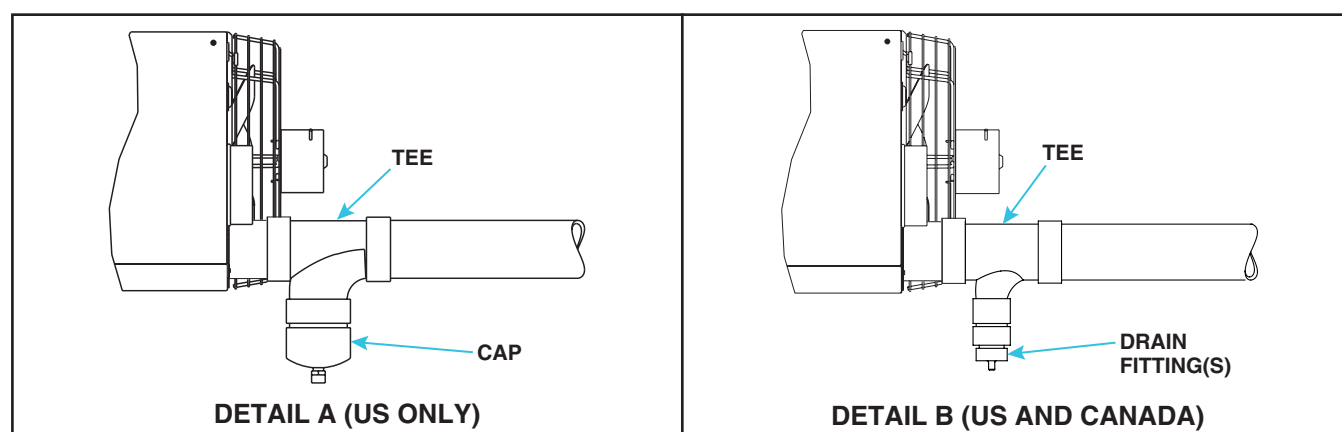

Figure 23. Installing Condensate Drain in Vertical or Horizontal Vent (Unit Sizes 130–310)
2. For horizontal or vertical vent (see Figure 23):
- a. For US installations only (see Figure 23, DETAIL A):
- (1) Connect field-supplied 4 × 4 × 4 PVC tee to 4-inch vent outlet on back of heater.
- (2) Connect PVC cap included in option CC2 or CC6 to tee. Cap is drilled and tapped for 1/2-inch NPT drain connection.
- (3) Connect field-supplied condensate drain to cap. Balance of vent may be either horizontal or vertical. Ensure that horizontal vent slopes downward toward drain.
- b. For US or Canadian installations (see Figure 23, DETAIL B):
- (1) Connect field-supplied PVC tee to 4-inch vent outlet on back of heater.
- (2) Connect field-supplied fitting(s) to tee as needed for 1/2-inch or larger condensate drain line. Balance of vent may be either horizontal or vertical. Ensure that horizontal vent slopes downward toward drain.